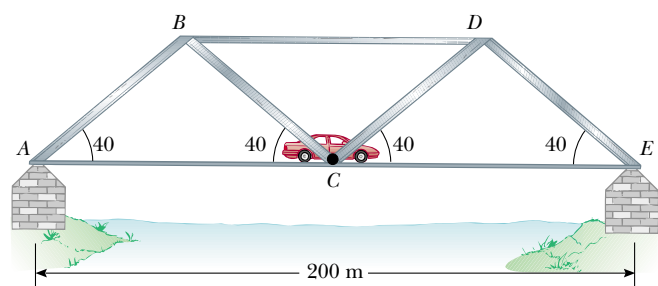

Figure P12.68
68. A bridge truss extends 200 m across a river (Fig. P12.68). The structure is free to slide horizontally to permit thermal expansion. The structural components are connected by pin joints, and the masses of the bars are small compared with the mass of a 1360-kg car at the center. Calculate the force of tension or compression in each structural component.